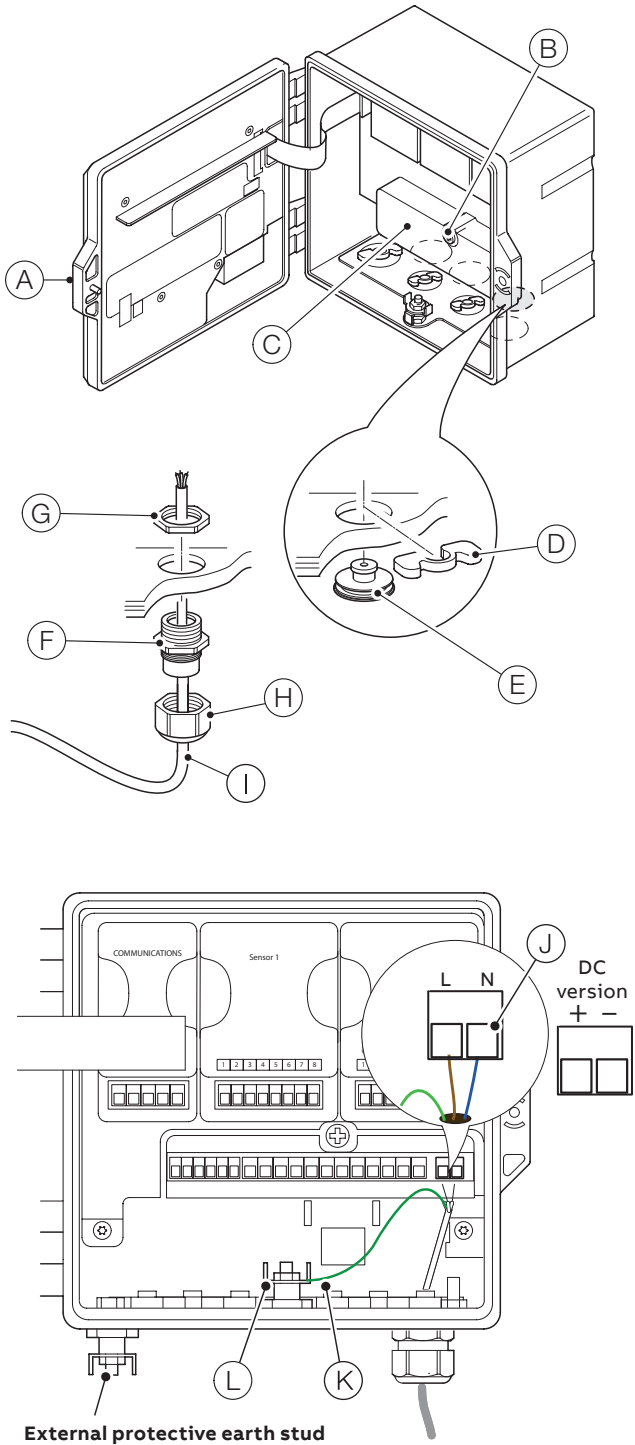

Figure 11 Connecting the transmitter AC mains power supply
- The external protective earth stud (see Figure 11, page 15) must be connected to the local earth bonding point using suitably sized ground cable. To connect to the protective earth stud, use a closed M4 cable lug.
Referring to Figure 11, page 15: